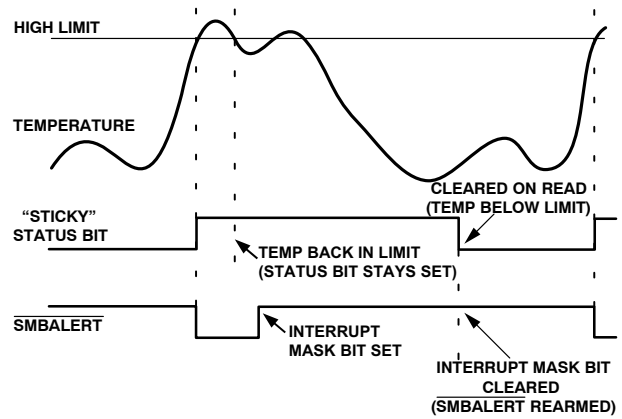

Figure 35. How Masking the Interrupt Source Affects **SMBALERT** Output
7. Periodically poll the status registers. If the interrupt status bit has cleared, reset the corresponding interrupt mask bit to 0. This causes the **SMBALERT** output and status bits to behave as shown in Figure 35.